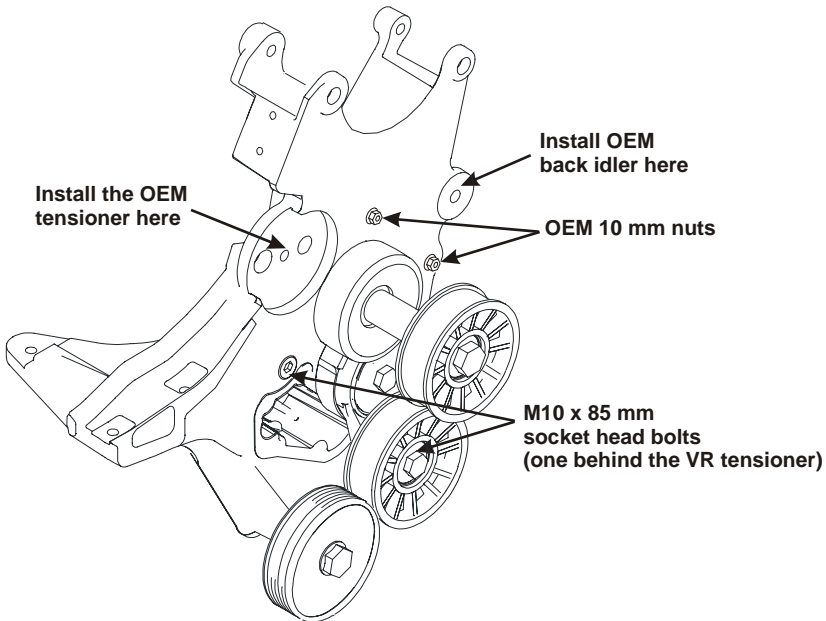

Figure 2.1
- Insert the two M10 x 85 low profile socket bolts and thread the two OEM 10 mm flange nuts onto the two studs. Thread all fasteners in just enough to hold the bracket in place (Figure 2.1). Check the fit of the bracket against the engine to make sure that it fits flat and has no obstructions, tighten the bolts evenly and then torque them to specifications.
- Apply Loctite and install the VR tensioner, the OEM belt tensioner and one OEM back idler (Figure 2.1).